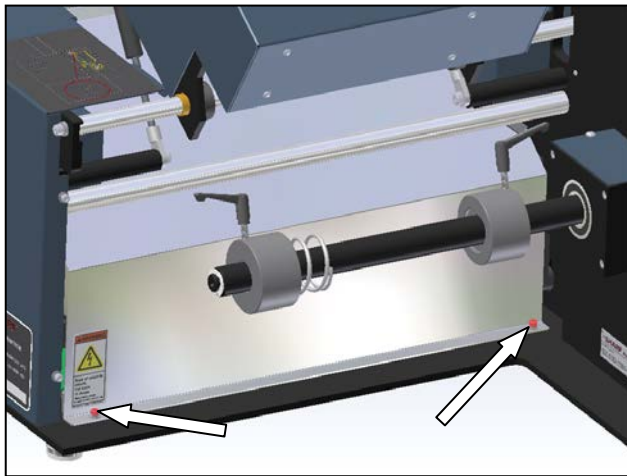
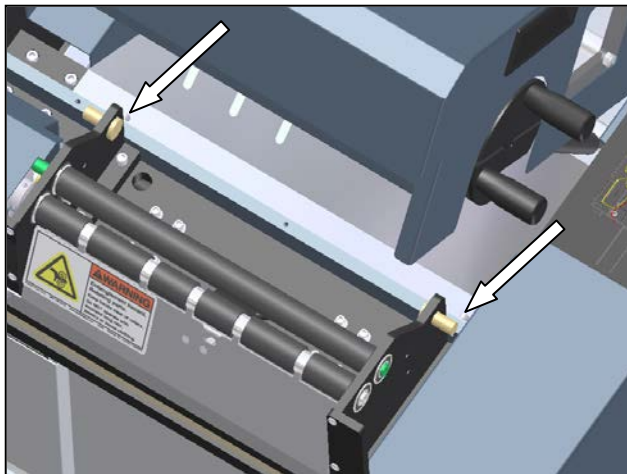

Figure 3-32. Motor Cover Rear Screws
Figure 3-33. Motor Cover Front Screws
2. Remove the two rear screws and the two front screws from the Motor Cover (Figure 3-32 and Figure 3-33).